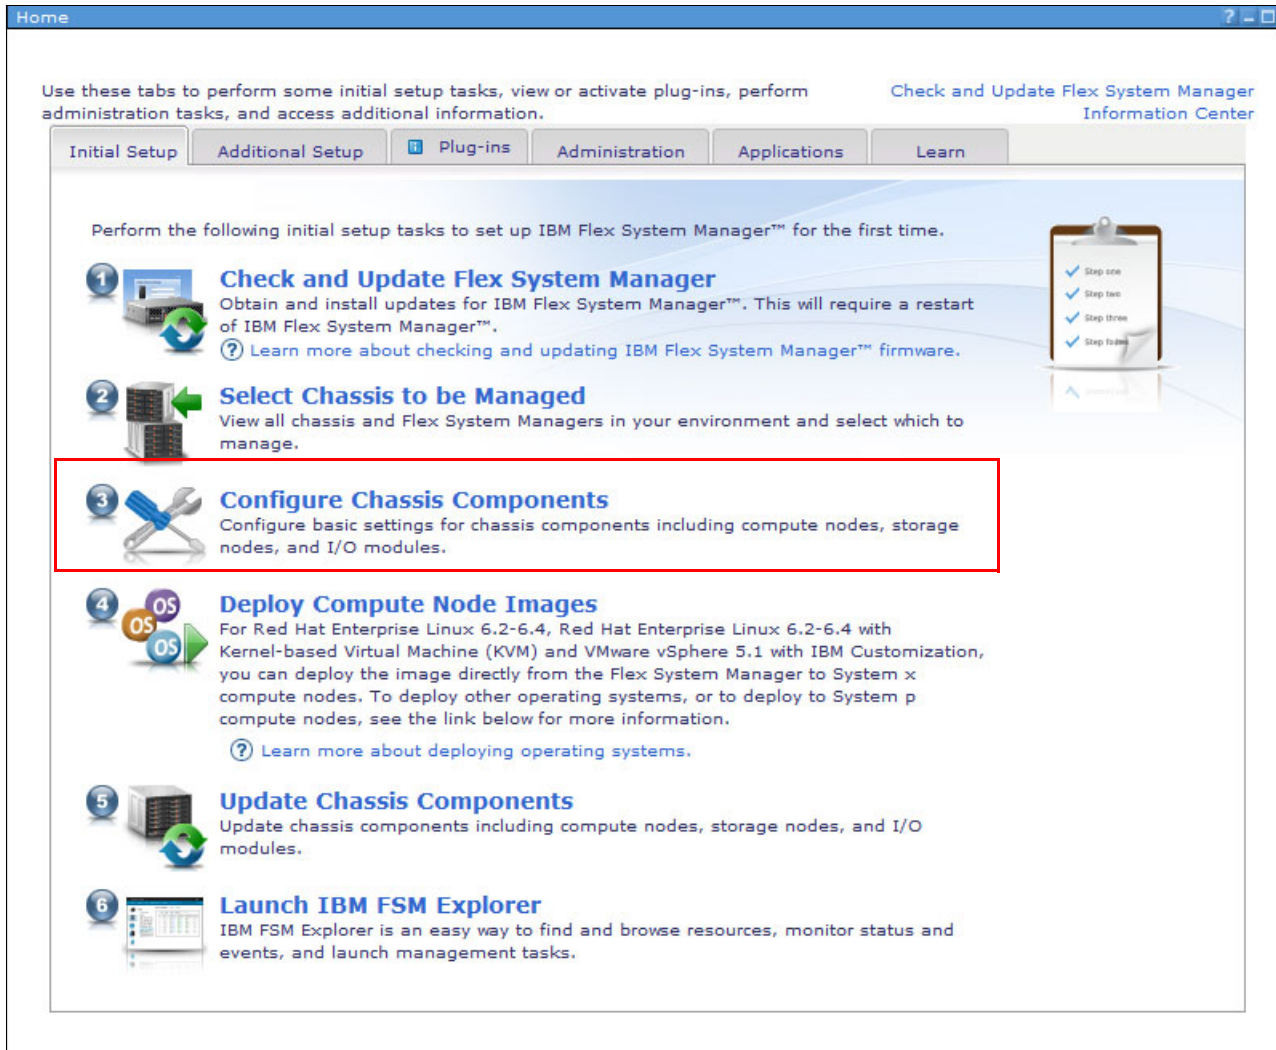

Figure 6-29 FSM Initial Setup tab in the Home window
1. From the Initial Setup tab in the Home window, click **Configure Chassis Components**, as shown in Figure 6-29.